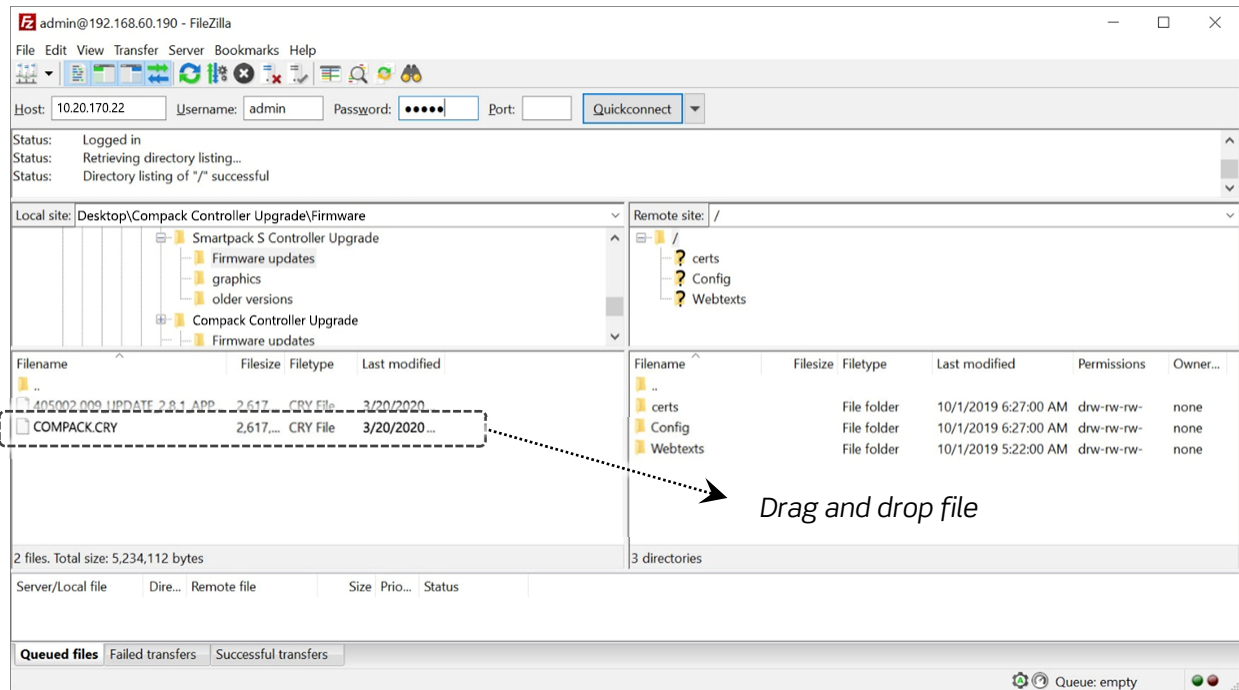

Figure 8 – Copying Upgrade File
4. Choose the **COMPACK.CRY** file on your computer to be transferred to the controller, then drag and drop it (or right-click and choose **Upload**), to copy it to the controller (see Figure 8).